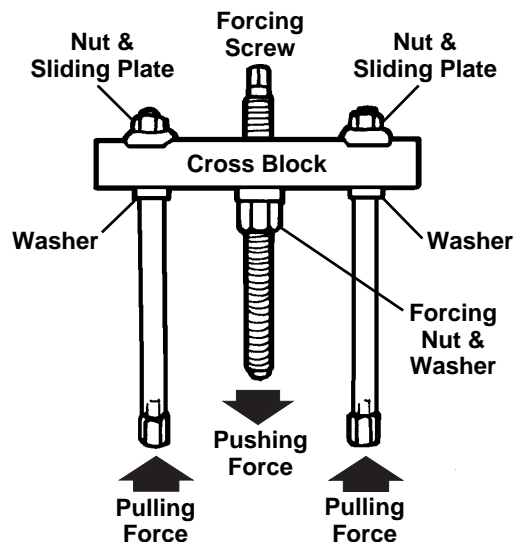

Figure 1
- Insert the forcing screw into the cross block with the forcing nut and washer assembled **below** the cross block. See Figure 1.
- Slide a leg assembly into each end of the cross block with the sliding plates and nuts assembled **above** the cross block and the washers assembled **below** the cross block. See Figure 1.